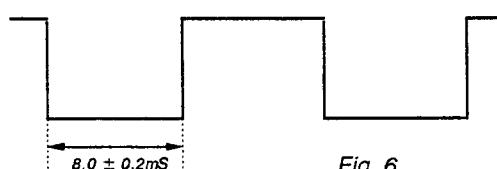

Fig. 6
- 5) Connect the oscilloscope probe to IC502 Pin 7, then adjust [V DELAY] so that the waveform is as in Fig. 6.